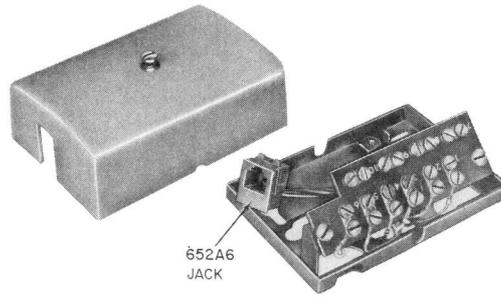

Fig. 1—74D Connecting Block
2.08 ♦USOC RJ18C: Provides a bridged connection of single-line tip and ring and make-busy leads MB/MB1 (Fig. 10). Used where customer requires surface-mounted installation. Requires installation of a 74D connecting block (Fig. 1) or equivalent at location of connection to CPE. Connection to the network should be made per Operating Company make-busy circuit drawings.
a line circuit with "A" lead control and make-busy leads MB/MB1 (Fig. 11). Used where customer requires surface-mounted installation. Requires installation of a 74D connecting block (Fig. 1) or equivalent at location of connection to CPE. Connection to the network should be made per Operating Company make-busy circuit drawings.